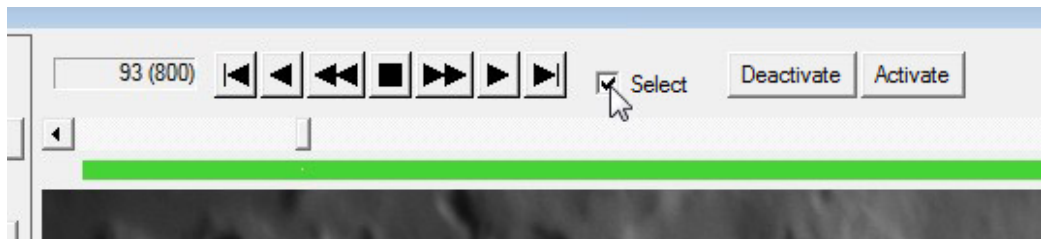

Figure 6: Select frames.
1. Click *Select* (see Fig. 6)